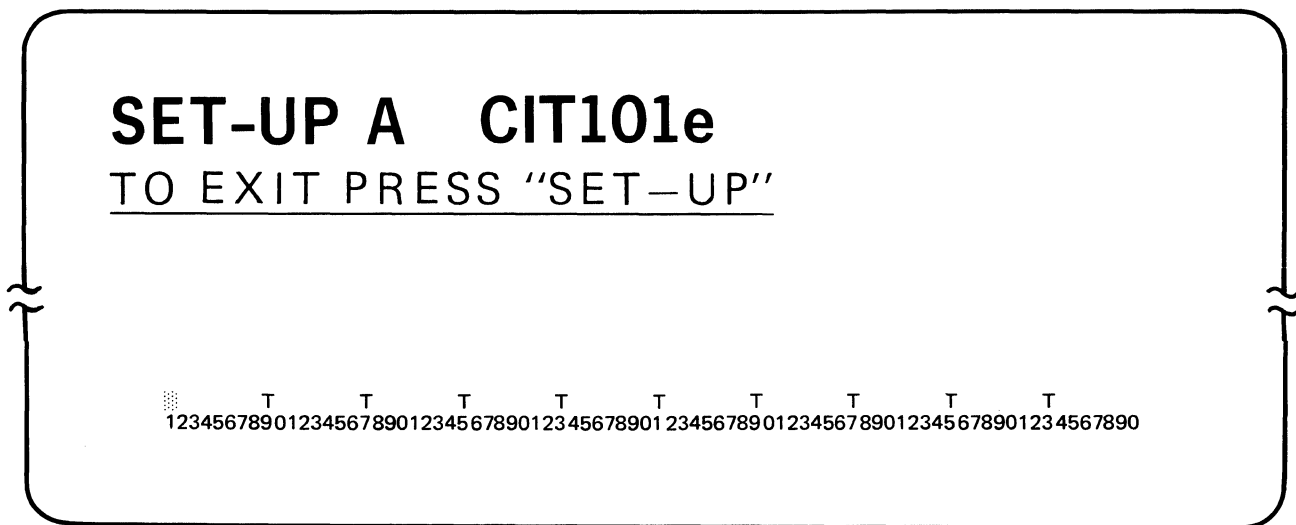

Figure 3-6. SET-UP A Mode
3.2.6.1 SET-UP A Mode. SET-UP A mode is entered by pressing the "SET-UP" key. In this mode the display shows in ruler fashion the locations of all the currently set TAB STOP positions and the currently selected screen width. Each available column is numbered in repeating groups of 1 through 0 for easy location of the TAB STOPS. Figure 3-6 depicts a SET-UP A mode display.